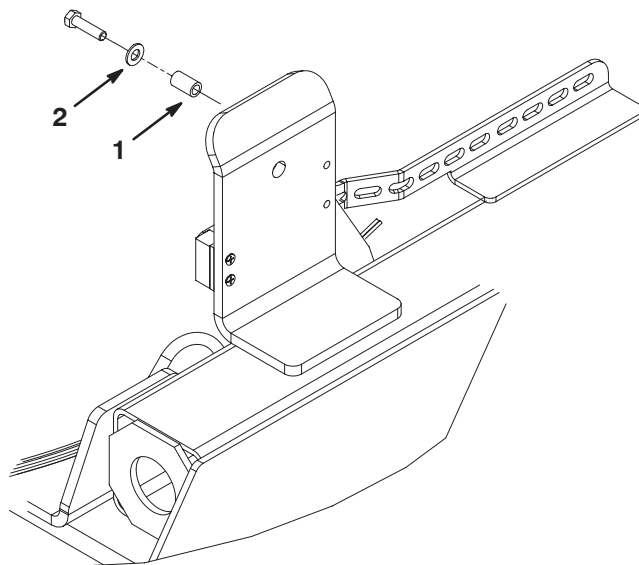
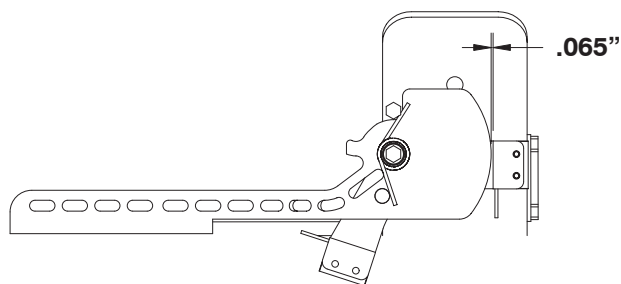

Figure 6
Figure 7
10. Mount the yoke spacer and the .375 x .734 flat washer to the upper hole in the left side of the frame mounting bracket with a 5/16 x 1-1/4 inch screw (Fig. 6). The legs of the torsion spring are to be hooked on the yoke spacer and the post on the switch arm (Fig. 7).
11. Adjust the switches so there is .065 inch clearance between them and the switch arm (Fig. 7). Tighten all fasteners.